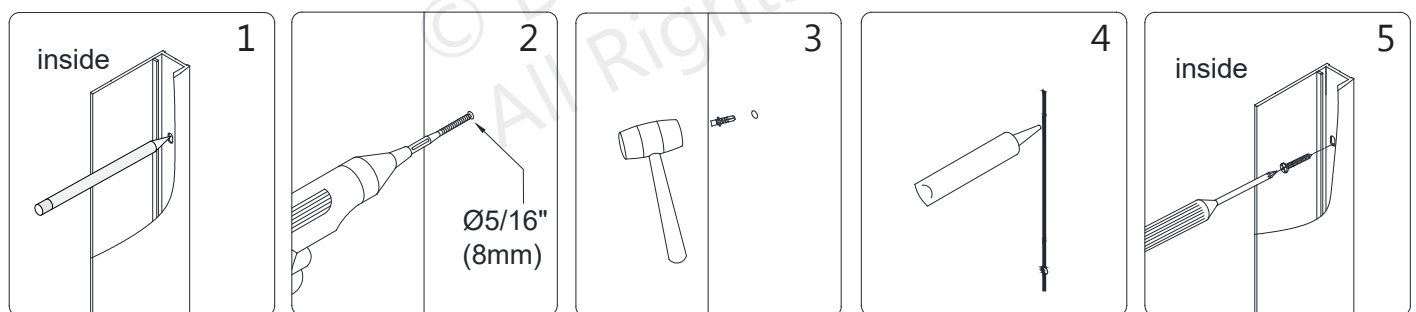

Fig 6
6. Remove the **Wall Profile (#09)** from the **Glass Profile (#10)/Panel Glass (#11)** assembly. Place the **Wall Profile (#09)** back onto the outlined position on the wall and mark the holes for drilling through the predrilled holes in the **Wall Profile (#09)**. Drill the holes in the wall using a **Ø5/16"** drill bit and insert the **Wall Anchors (#13)**. Apply silicone along the back of the **Wall Profile (#09)** and around the holes on the wall. Fasten the **Wall Profile (#09)** to the wall with the **Truss Head Screw ST4.2×40 (#15)**. (**Fig 6**)